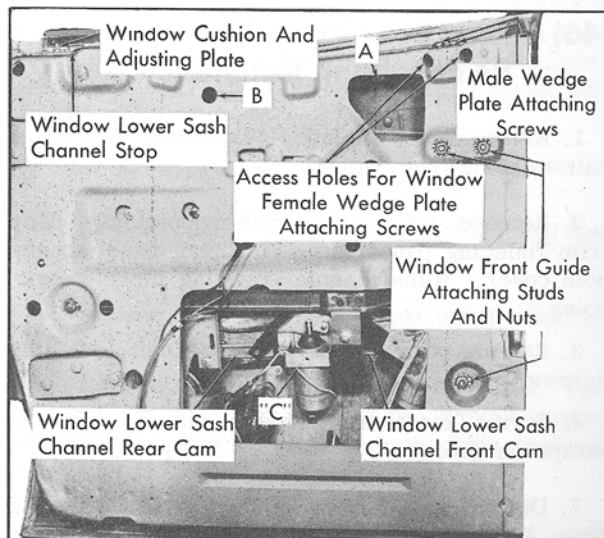

Fig. 17-37 Rear Door Window Attachment
2. Through access holes, Fig. 17-37, remove female wedge plate attaching screws and remove wedge plate through access hole "A"
3. Remove window cushion and adjusting plate, Fig. 17-37. Remove window lower sash channel stop attaching screws and remove stop.
5. Through access hole "A", remove window lower sash channel front cam rear attaching screw. Through access hole "B", remove rear cam rear attaching screw, Fig. 17-37.